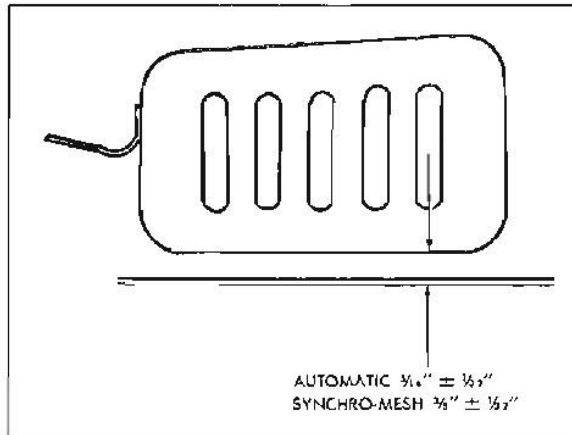

Fig. 6B-93 Float Level Check
B. ADJUST FLOAT LEVEL (Fig. 6B-93)
With the air horn inverted, gasket in place and needle seated, the clearance shown in Fig. 6B-93 should be between float at point below first indentation on side of float from toe end and air horn gasket. Fig. 6B-93 also illustrates point where the dimension should be checked. Bend float arm to adjust. Adjust both floats and recheck float alignment.
C. ADJUST FLOAT DROP (Fig. 6B-94)